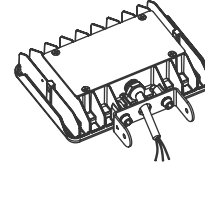

Fig. 2.2
3. Fix the lamp and bracket together with bolts (Fig. 2.2) . Do not damage the wires.